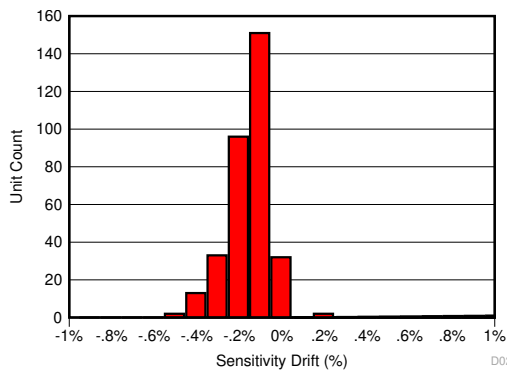
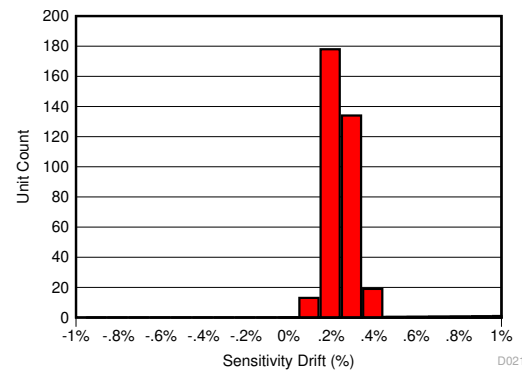
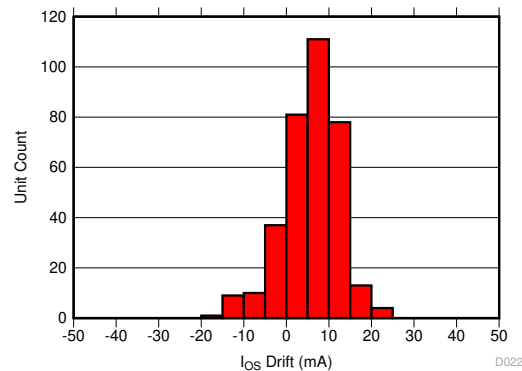

图 9-4. Sensitivity Error After 130°C, 85% RH HAST
图 9-5. Sensitivity Error Drift After AEC-Q100 High Temperature Operating Life Stress Test
图 9-6. Input-Referred Offset Drift After AEC-Q100 High Temperature Operating Life Stress Test
The same compensation techniques used in the TMCS1100 to reduce temperature drift also greatly reduce lifetime drift due to aging, stress, and environmental conditions. Typical magnetic sensors suffer from up to 2% to 3% of sensitivity drift due to aging at high operating temperatures. The TMCS1100 has greatly improved lifetime drift, as defined in the Electrical Characteristics for total sensitivity error measured after the worst case stress test during a three lot AEC-Q100 qualification. All other stress tests prescribed by an AEC-Q100 qualification caused lower than the specified sensitivity error, and were within the bounds specified within the Electrical Characteristics table. 图 9-4 shows the total sensitivity error after the worst-case stress test, a Highly Accelerated Stress Test (HAST) at 130°C and 85% relative humidity (RH), while 图 9-5 and 图 9-6 show the sensitivity and offset error drift after a 1000 hour, 125°C high temperature operating life stress test as specified by AEC-Q100. This test mimics typical device lifetime operation, and shows the likely device performance variation due to aging is vastly improved compared to typical magnetic sensors.